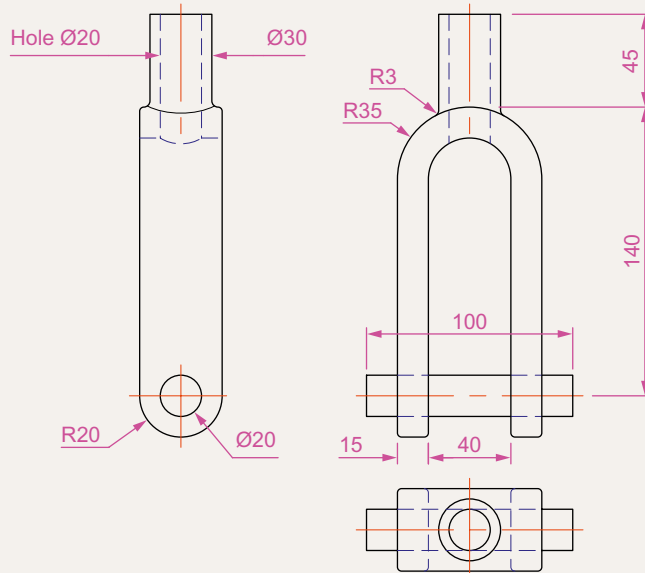

Fig. 17.42 Exercise 6
6. A fork connector and its rod are shown in a two-view projection (Fig. 17.42). Construct a 3D model drawing of the connector with its rod in position. Then add lighting to the scene, place in the **ViewCube/Isometric** viewing position, add materials to the model and render.